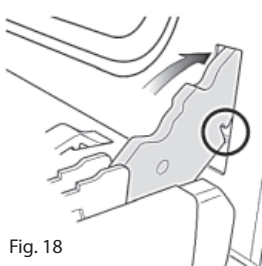

Fig. 18
- Place the hinge latches in the gaps and make sure that the gap is fitted into place as in figure 18.